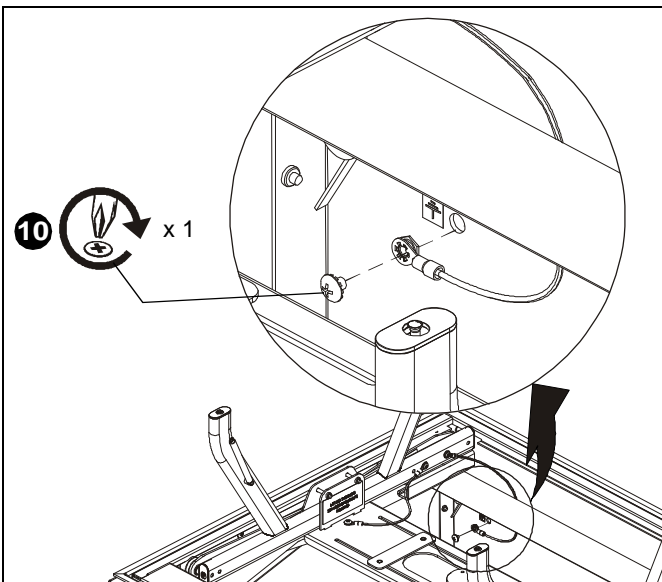

Figure 11
10. Reconnect grounding strap from inside front of SL220 to projector cradle, using the Phillips head screw previously removed. (See Figure 11)